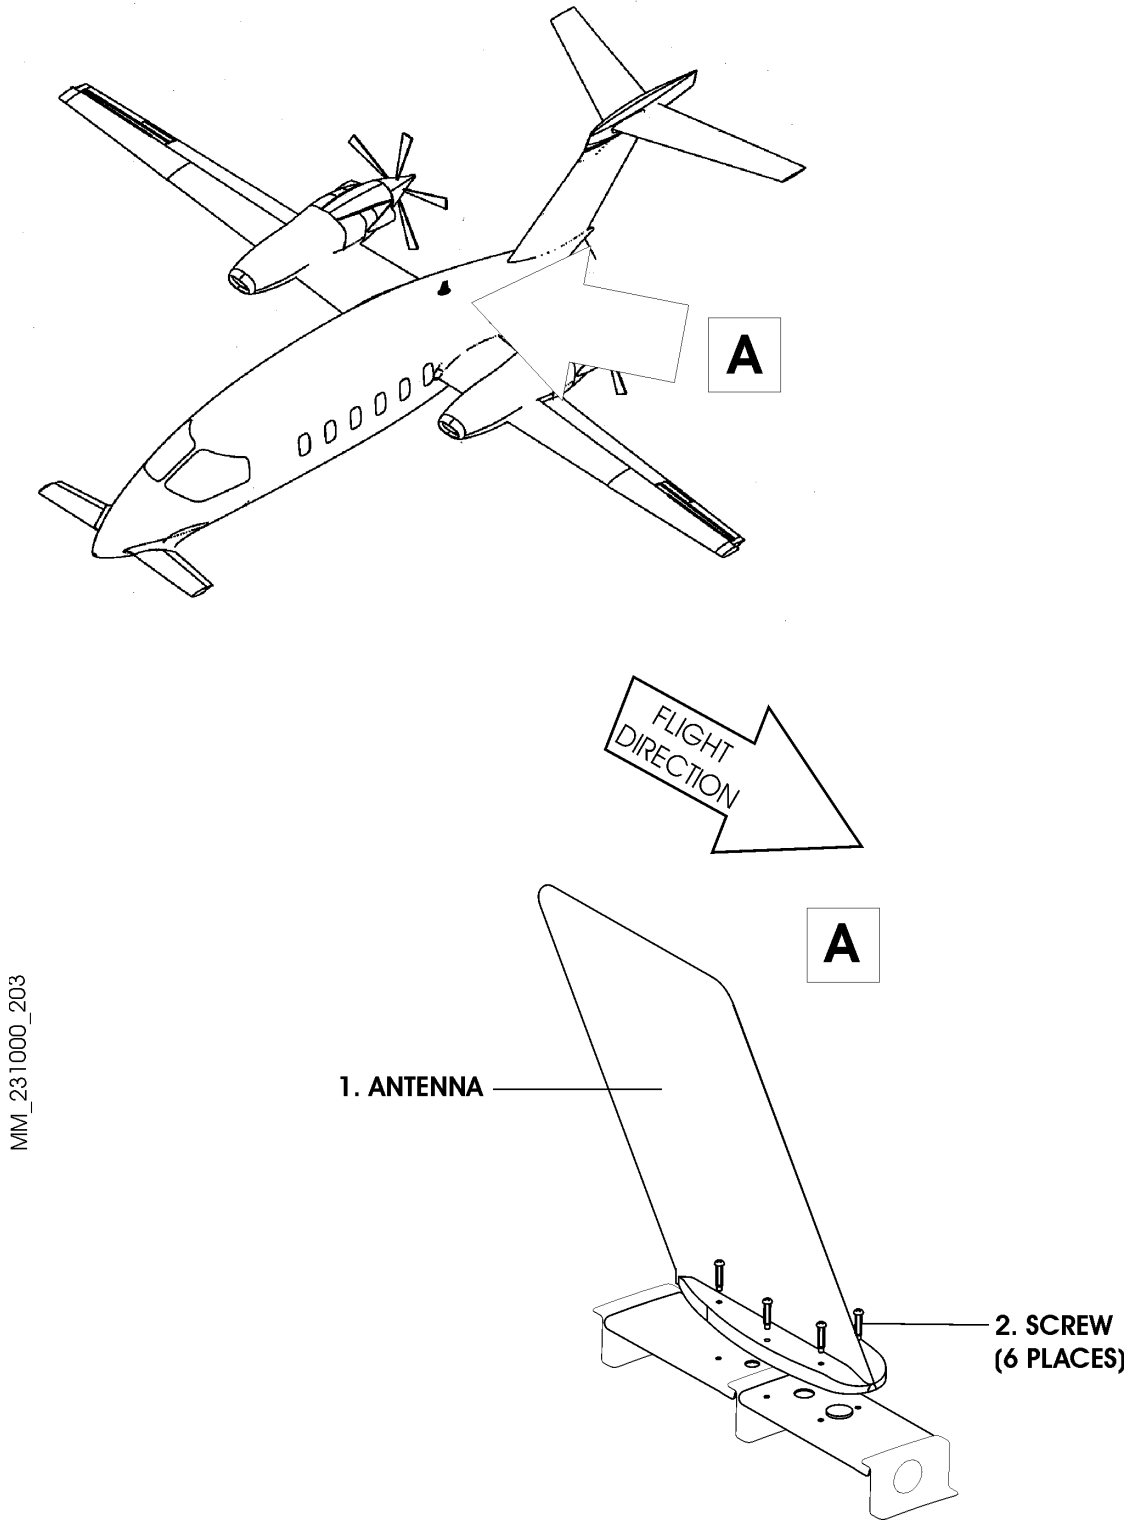

Fig. 203 - HR Smith V/UHF Combined Antenna - Removal/Installation
6. HR Smith V/UHF Combined Antenna - COM 1 - Removal (Ref. Fig. 203)
7. HR Smith V/UHF Combined Antenna - COM 1 - Installation(Ref. Fig. 203)